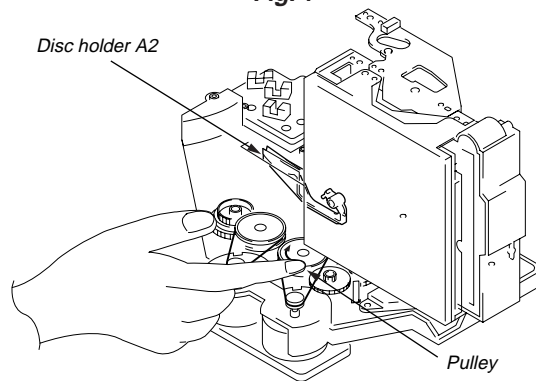
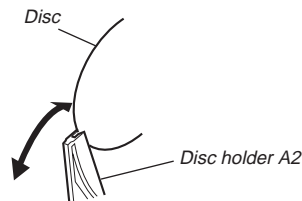

Fig. 2
Fig. 3
8. Rotate the pulley with finger (Fig. 2) to stop the disc holder A2 slightly away from the disc (Fig. 3).